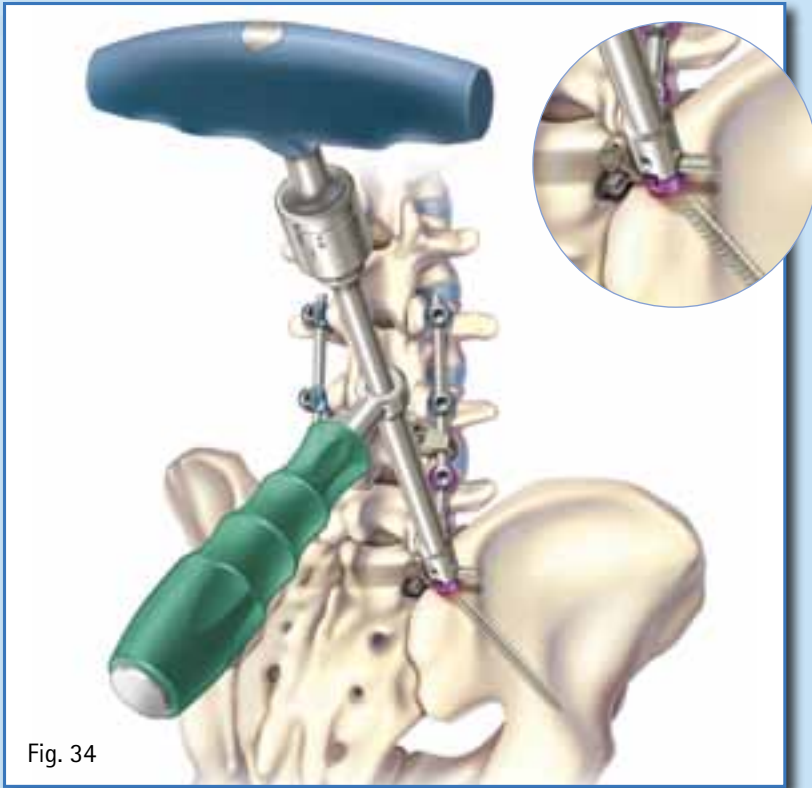

Fig. 34
- Final tighten the set screw by using the clicking torque handle or the line-to-line torque wrench along with the counter torque L-handle (as described in section 10). (Fig. 34)